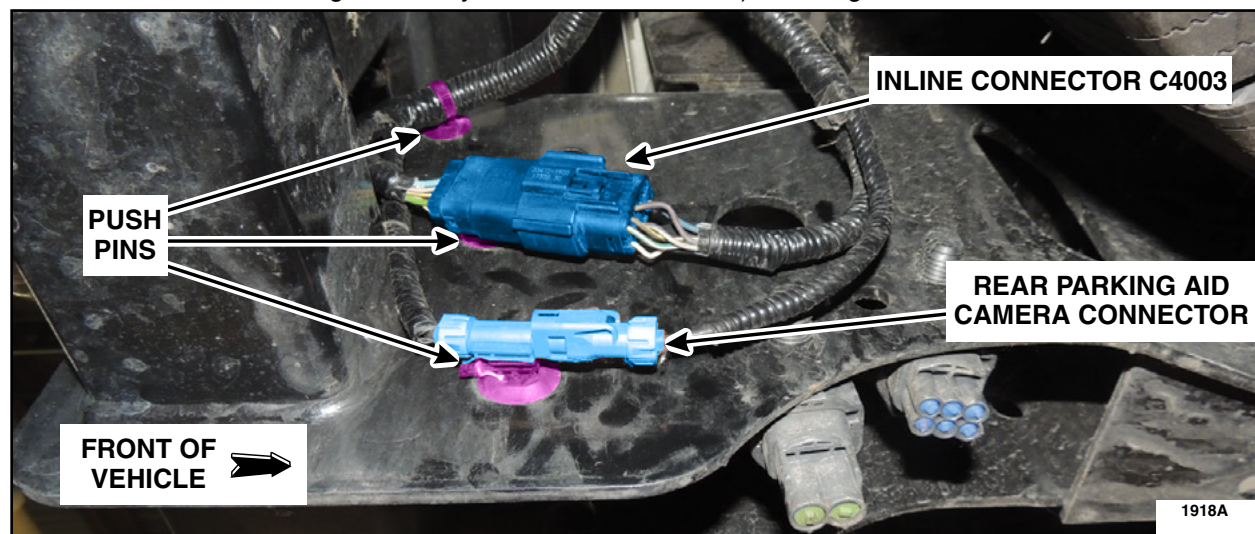

FIGURE 1
4. Detach the wire harness push pin retainers located on the left hand (LH) side of the trailer hitch frame. Disconnect inline connector C4003 and the rear parking aid camera connector (digital camera system connector shown, analog camera system connector similar). See Figure 1.